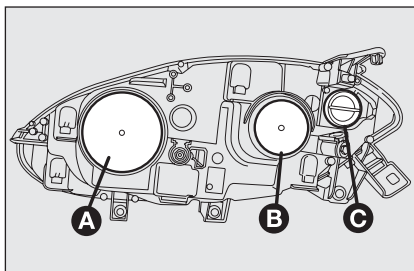
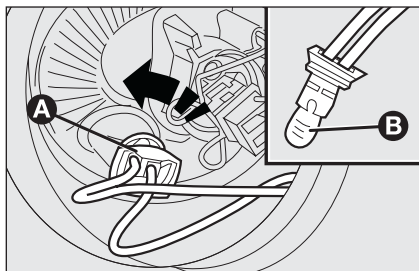

fig. 19
fig. 21
FRONT LIGHT UNITS fig. 19
- remove the protective cover **B**-fig. 19;
- refit the protective cover **A**-fig. 19 correctly.
- remove the protective cover **A-fig. 19**;
- turn the bulb holder **A-fig. 21** counterclockwise and then withdraw it;
- fit the new bulb, refit the bulb holder **A-fig. 21** and then refit the protective cover **B-fig. 19** correctly.
- refit the protective cover **B-fig. 19** correctly.
- turn the protective cover **C-fig. 19** counterclockwise;